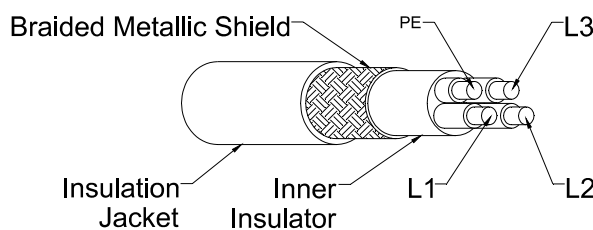

Figure 2a
- Braided copper shielding of 85% density or more (as shown in figure 2a)